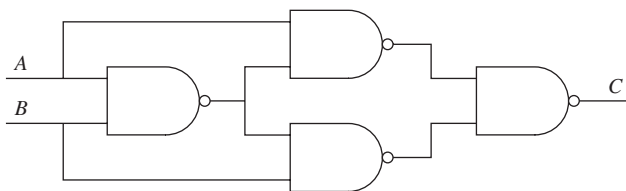

FIGURE P10.57 Logic circuit constructed with NAND and NOR.
10.57 (A) Find the truth table for the logic circuit shown in Figure P10.57.